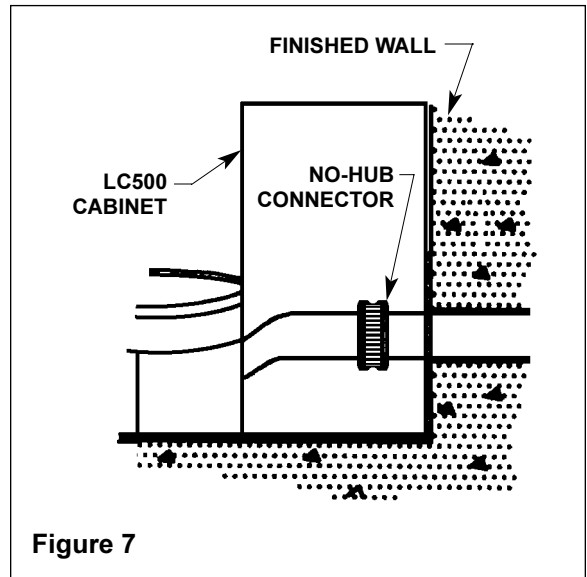

Figure 7
*NOTE: If the waste outlet goes through the back wall, a no-hub-type connector may be used (the connector is available as an option from your Bradley representative) (see Figure 7).*